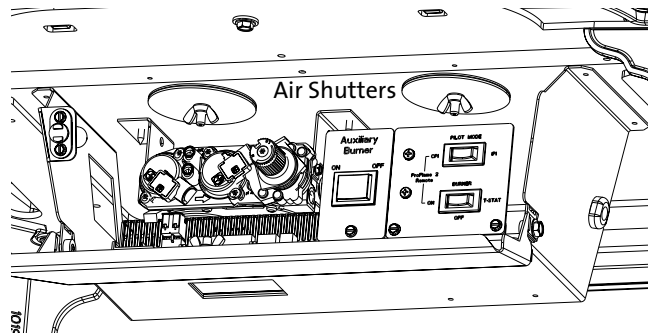

Figure 6.1. Air Shutter wing nuts are accessed from within the control compartment.
4. Remove both air shutter wing nuts, washers, and gaskets from the studs underneath the firebox. See fig. 6.1.